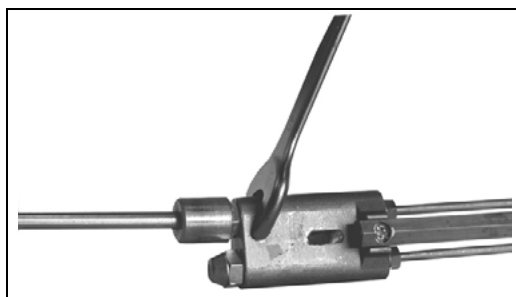

Fig. 66
- Unscrew the nozzles using two wrenches (16 and 24 mm), as shown in Fig. 66.